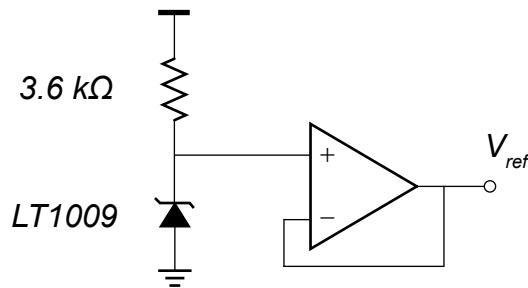
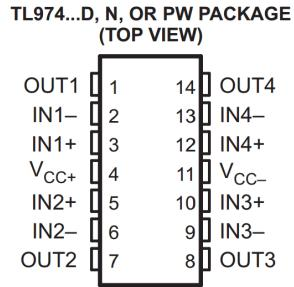

Figure 10: Schematic of the LT1009 precision voltage reference circuit.
Figure 11: Pinout diagram of the TL974 Op-Amp.
1. Build circuit shown in Fig. 10 on your breadboard. Here, we use one of the op-amps in the TI TL974IN quad op-amp IC as a voltage follower (buffer) to provide sufficient current drive capability. A pinout diagram of TL974IN is shown in Fig. 11.